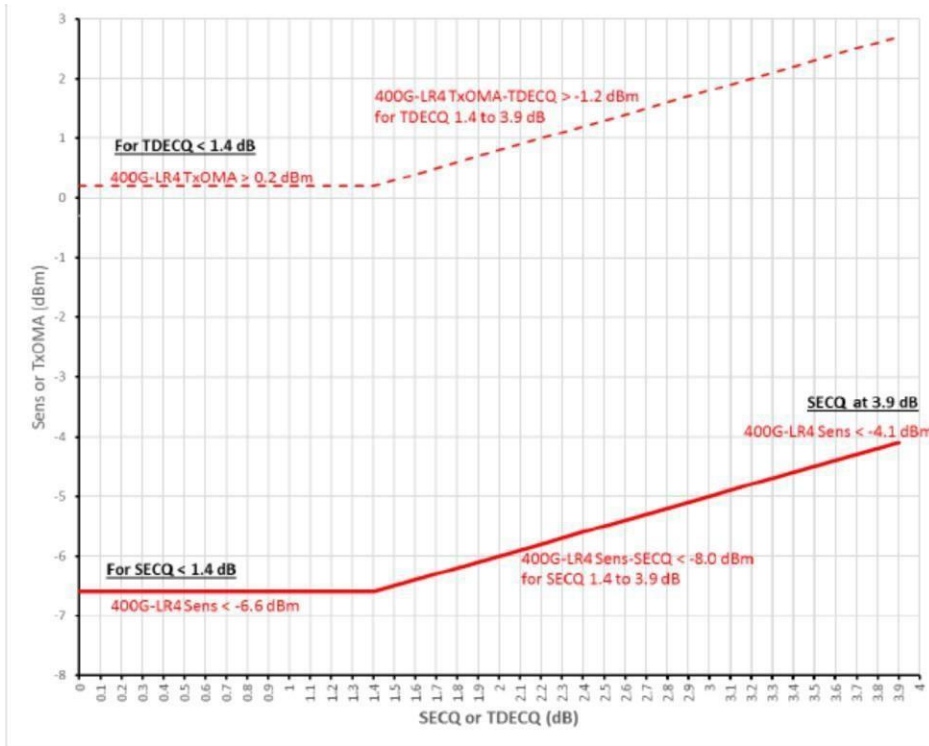

Figure 4. Illustration of Receiver Sensitivity Mask for 400G-LR4
6. Receiver sensitivity (OMA_{outer}), each lane (max) is informative and is defined for a transmitter with a value of SECQ up to 3.9 dB. It should meet Equation (1), which is illustrated in Figure 4.